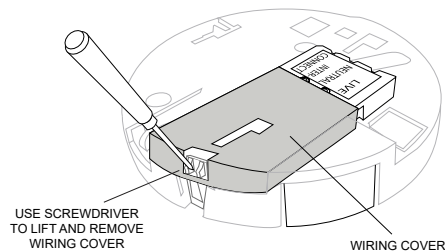

FIGURE 7 – LOCKING THE ALARM UNIT WITH THE BASE
- Insert the Lock Key into the Lock Hole at the side of mounting base. See Figure 7